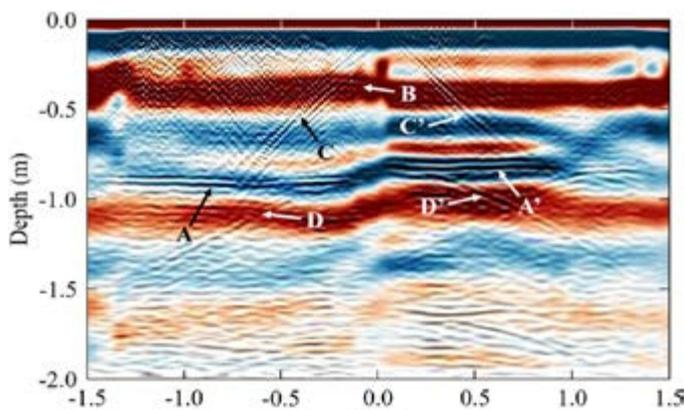

Figure 8: Sample fused GPR/UST image for a horizontal profile at Y=1.40 m, spanning across Blocks 3 and 4 (Elkarmoty and Rupfle et al 2023).
Image fusion (IF) was employed to merge SAFT-reconstructed GPR and UST images. Image registration, which is performed prior to fusion, is used to align the images, and involves geometric spatial transformations such as translation, rotation, and resampling. For our case where the coordinate systems were the same, registration involved translating the GPR image to align the direct wave with the surface, resampling both images to have the same size and resolution and normalizing the intensities. The selected pixel size was 2.5 x 2.5 mm, which allows sufficient sampling of the shortest wavelengths contained in the image of 28 mm (UST image). The GPR image was kept in color and the UST image in greyscale. The two registered images were merged using a Wavelet-based fusion algorithm. The location of the profile is at Y = 1.40 m and spans across Blocks 3 and 4 (see Figure 8). Reflectors A and A' represent the back-